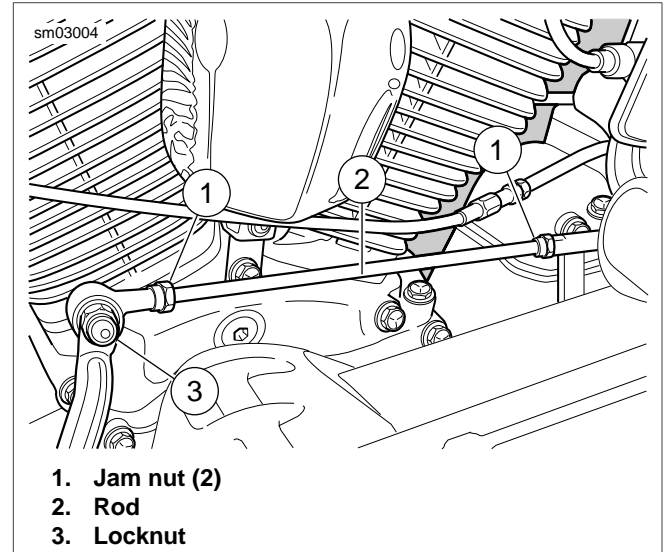

Figure 6-2. Shifter Rod
1. See Figure 6-2. Remove locknut (3), lockwasher and flat washer to free front end of shift rod from inner shift arm.
2. Loosen jam nuts (1) and adjust rod (2) as necessary.
3. Install flat washer, lockwasher and locknut (3) to fasten front end of shift rod to inner shift arm.
4. Tighten locknut (3) to 96-144 **in-lbs** (10.8-16.3 Nm)